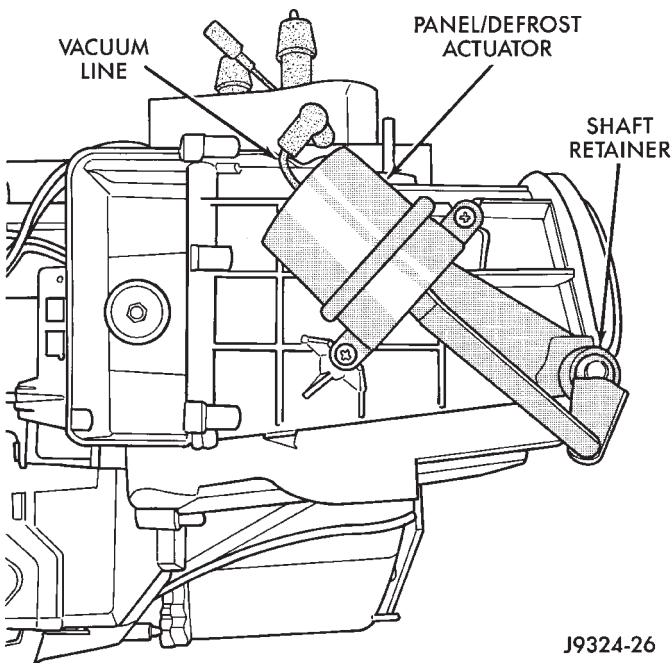

Fig. 54 Panel-Defrost Door Actuator
(1) Disconnect and isolate the battery negative cable.
(2) Remove the instrument panel assembly from the vehicle. Refer to Instrument Panel Assembly in the Removal and Installation section of Group 8E - Instrument Panel Systems for the procedures.
(3) Unplug the vacuum harness connector from the panel-defrost door actuator (Fig. 54).